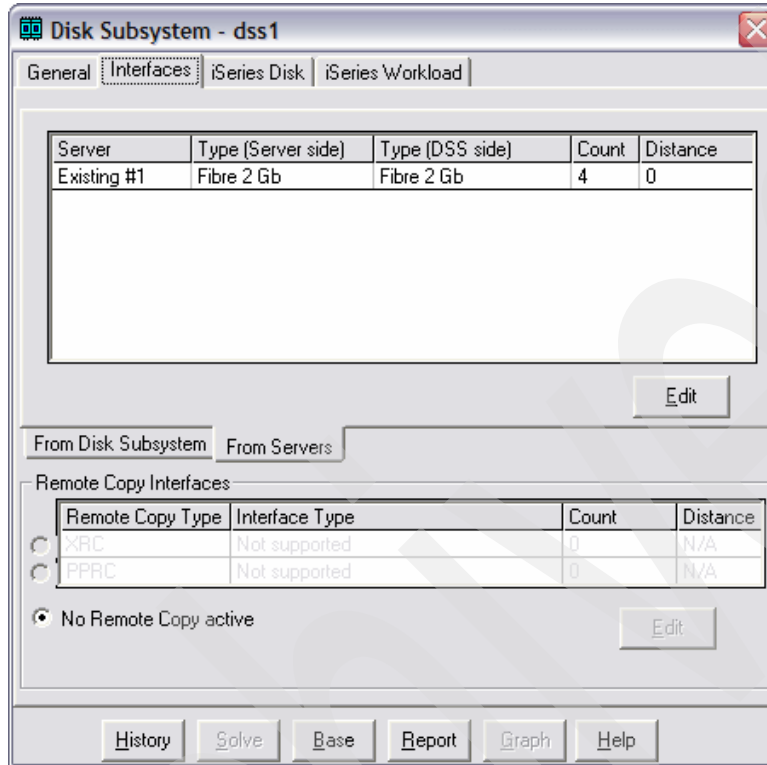

Figure 4-106 Interfaces from the server
- b. Select the Interfaces tab and then select the From Servers tab (see Figure 4-106). Observe that four interfaces from servers with workload Existing #1 are already configured as the default. In our example, we plan four System i5 FC adapters in multipath so we leave this default value. If necessary, you can change it by clicking **Edit** and specifying the number of interfaces.